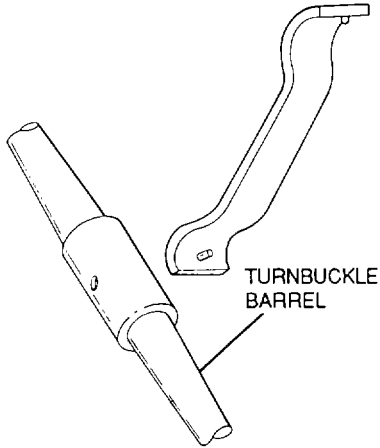

Figure 7-8. Turnbuckle Wrench
(1) Cable tensiometers are precision measuring instruments. Exercise extreme care when handling them, because some types of damage may render them useless.
(2) Store tensiometers in separate boxes to prevent damage.
**7-4. Tumbuckle. Wrench.** The tumbuckle wrench shown in figure 7-8 is used for ease in adjusting tumbuckle. It is a short bar curved on each end to fit the body of a tumbuckle. Each curved surface has a short steel peg which fits into the hole in the center of the tumbuckle.